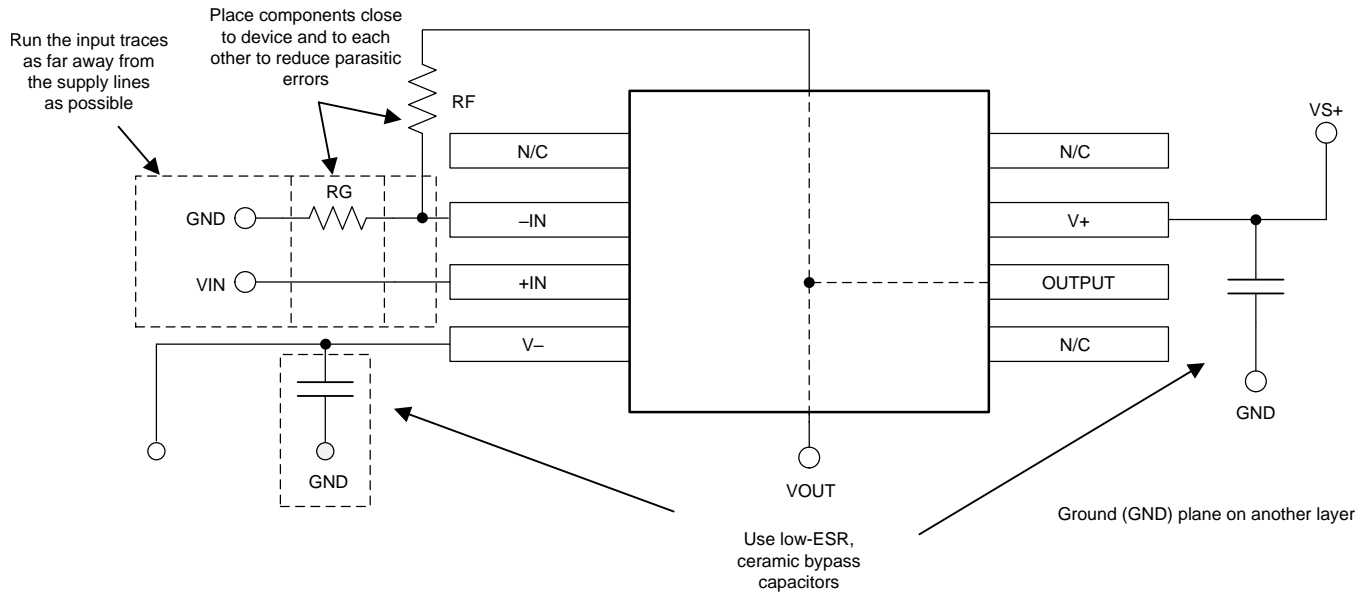

Figure 38. Operational Amplifier Board Layout for a Noninverting Configuration
- Place the external components as close to the device as possible. As shown in Figure 38, keeping R_F and R_G close to the inverting input minimizes parasitic capacitance.